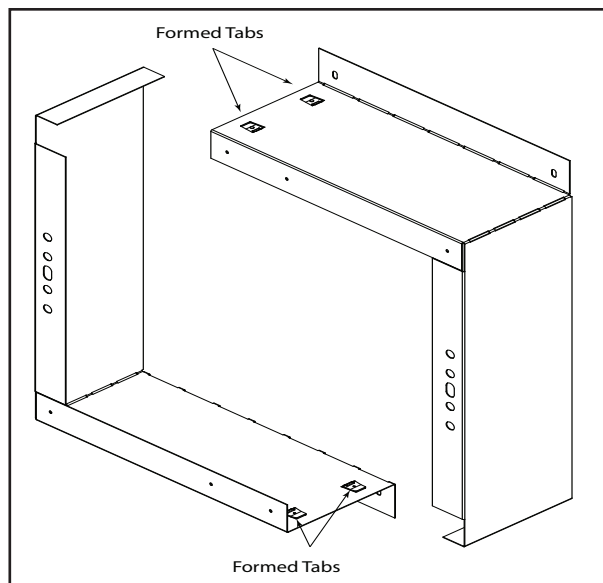
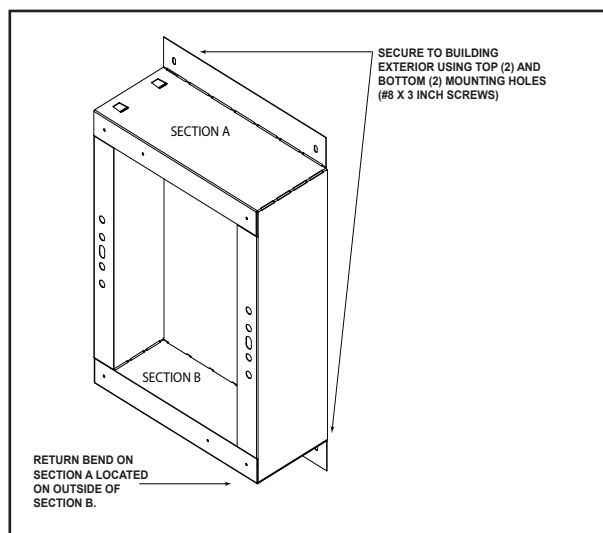

Figure 2.8 Bend BEK Sections
Figure 2.9 BEK Assembled
5. Assemble the HEAT-OUT-BEK kit. Bend the two sections of the HEAT-OUT-BEK kit as shown in Figure 2.8.
6. Use the formed tabs, shown in Figure 2.8, to assemble the box as shown in Figure 2.9. The return bend on section A should be located on the outside of section B.